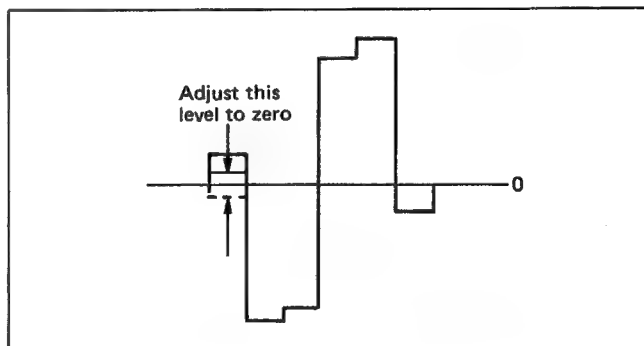

Fig. 28
- 4) Adjust PAL APC ADJ. (R619) to achieve waveform shown in Fig. 28.